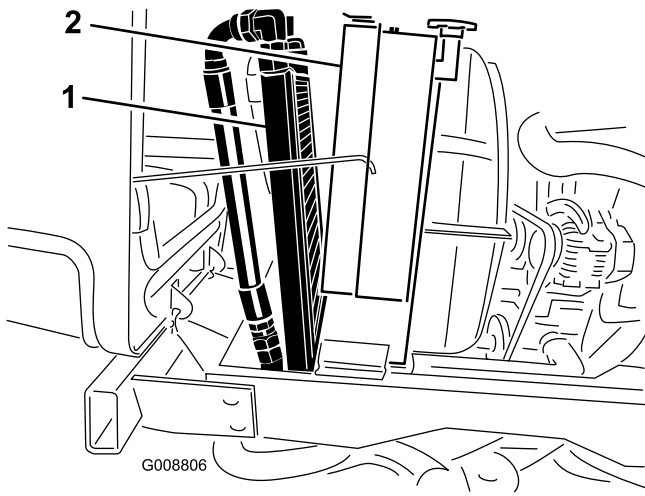

Figure 68
3. Pivot the oil cooler rearward. Clean both sides of the oil cooler and radiator area (Figure 68) thoroughly with compressed air. Start from the front and blow the debris out towards the back. Then clean from the back side and blow towards the front. Repeat procedure several times until all chaff and debris is removed